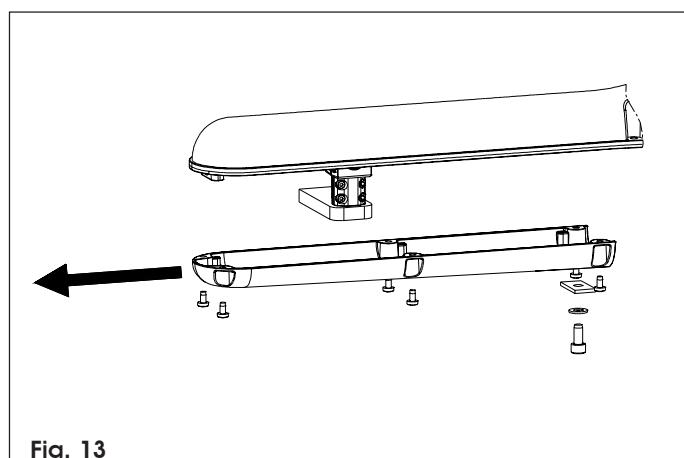

Fig. 13
- 1) Remove the mechanical stop and the lower housing, in the order described, as indicated in Fig. 13.